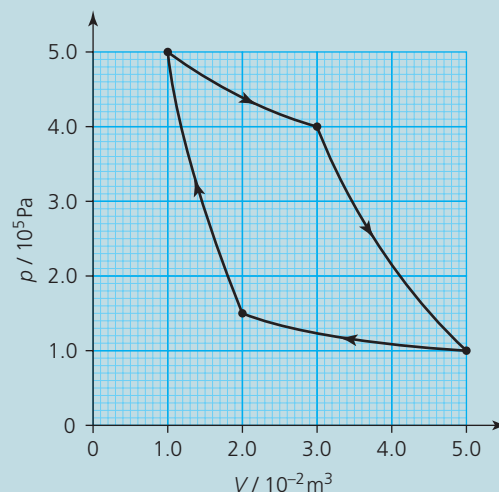

Figure 21
19. For the cycle in Figure 21, estimate the net work done.